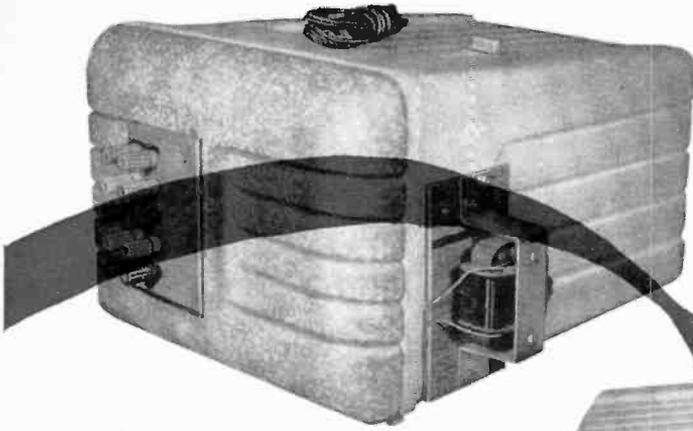

Fig. 2
tronic chassis ventilation was used. After drilling a hole for the motor shaft in the cooler wall, bend a mounting bracket or  $\frac{1}{16}$ " aluminum to secure the motor to the wooden mounting plate. Extend the motor shaft (using tubing) so that the fan will be located about  $\frac{3}{4}$ " inside the cooler. Attach the motor mounting to the cooler as shown in Fig. 2.
**Input Terminal Block.** A minimum of ten 5-way color-coded binding posts should be provided for input, output, and power supply connections to the equipment being tested. The terminals are affixed to a piece of plywood as shown in Fig. 2, with their leads protruding through the cover of the cooler.